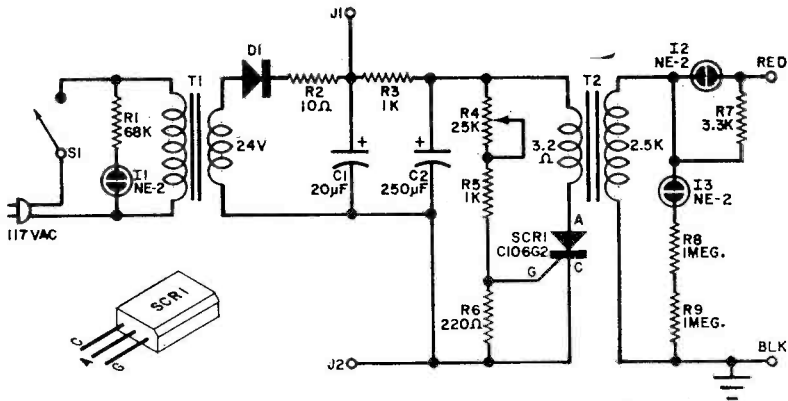

Fig. 1. The device can be powered either from an a.c. power line or from a conventional 45-volt "B" battery. There are no critical parts or adjustments.
**Construction.** The circuit, diagrammed in Fig. 1, can be built in a metal or plastic utility box. Parts layout is not critical, and all components can be affixed to the front metal cover as shown in Fig. 2. This type of construction makes for easy assembly, wiring, and troubleshooting—in the event that it should ever become necessary. If a metal box is
Use a heat sink (long-nose pliers on each lead) when soldering the SCR, and toothed lock washers and soldering lugs for all chassis connections. For ease in output identification, use a red-insulated wire for the high-voltage lead and a black-insulated wire for the ground lead (see Fig. 1). "Power on" indicator I1 should be housed in a red plastic holder, while "operation" indicator I2 should have some other color plastic holder (orange, for example). Lamp I3 is contained within the box and requires no plastic mounting.